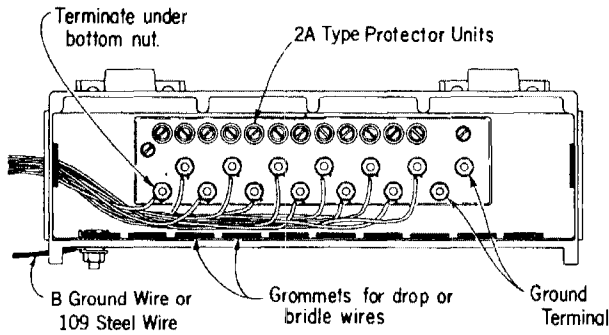

Fig. 3 - 116B Protector (cover omitted for clarity)
2.03 The internal wiring for a 116B Protector and a 104A Wire Terminal is shown in Figs. 3 and 4, respectively.